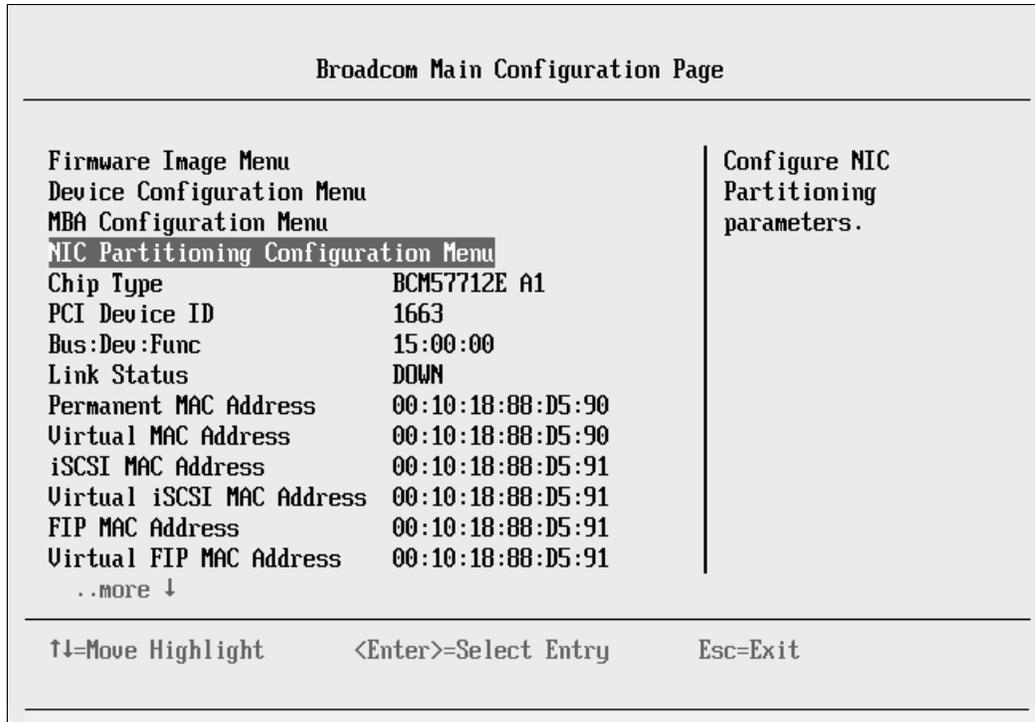

Figure 9-7 NIC Partitioning Configuration Menu selection window
9. Back in the Broadcom Main Configuration Page panel (Figure 9-7), click **NIC Partitioning Configuration Menu**.